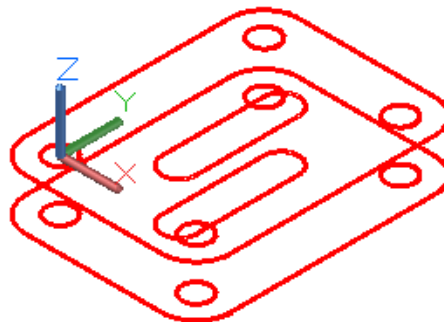

Figure Step 13
Step 13 Ensure that layer: Surface Off is off and then change the layer of the region you just created to layer: Surface Off. Your model will now appear as shown in the figure. (Figure Step 13)